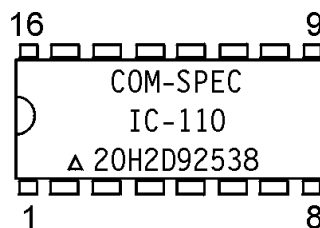

Figure 1. Com-Spec IC-110 EEPROM
6. Insert the IC-110 EEPROM in the ZIF socket. Pin 1 (see Figure 1) should be nearest to the lever (the printing on the face of the IC-110 will be upside down).
4. Insert the IC-110 EEPROM in the ZIF socket. Pin 1 (see Figure 1) should be nearest to the lever (the printing on the face of the IC-110 will be upside down).